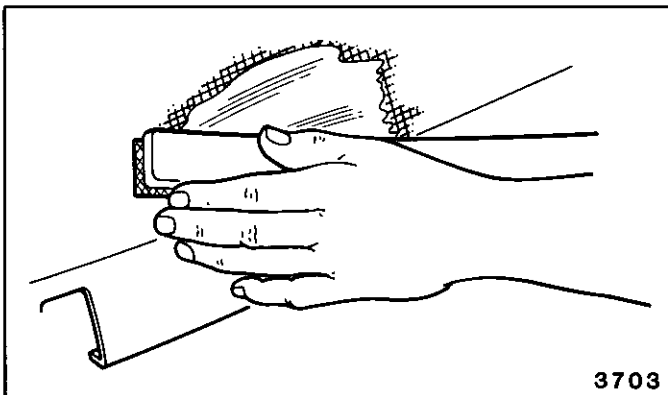

Fig. 1-16-Establishing Rough Contour with Body File
- e. Establish rough contour, where possible, with a curved tooth body file. Follow by block sanding using #220 sandpaper to establish accurate level and contour with the surrounding surface (Figs. 1-16 and 1-17).